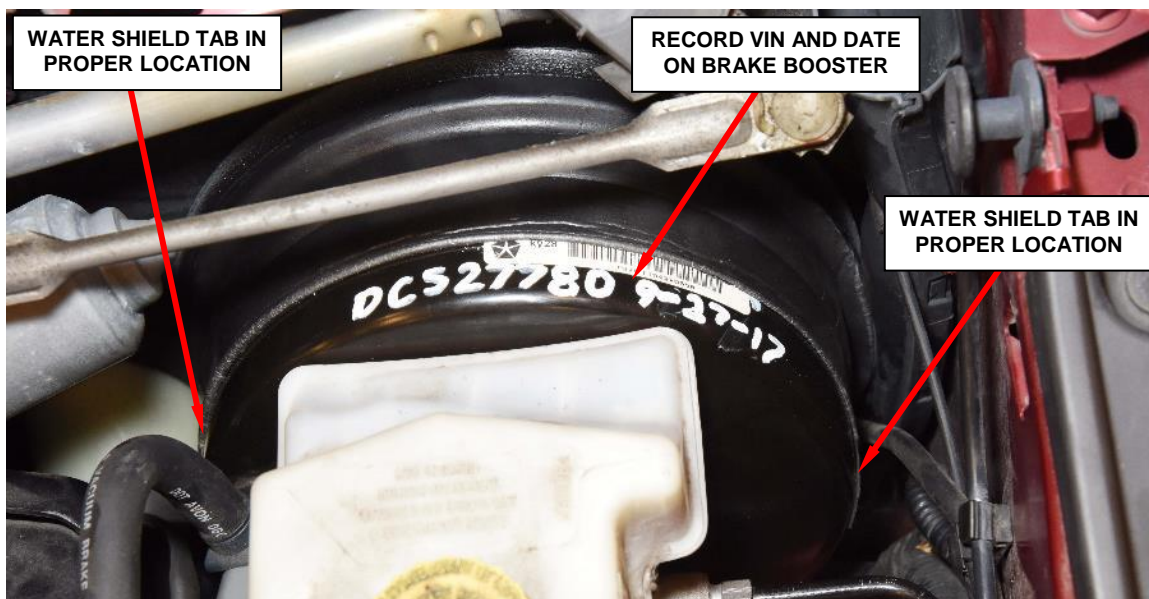

Figure 30 – Record VIN and Date on Brake Booster Shell Outer Circumference
1. Using a light color paint marker (white or yellow recommended for visibility) record the last eight characters/digits of the Vehicle Identification Number (VIN) and the date of inspection MM-DD-YY on the top side outer circumference metal surface of the brake booster metal shell (Figure 30). If a paint marker is not available, a white label or tape may be applied to the brake booster in the same location as shown in (Figure 30) to record VIN and date on.
2. Using a digital camera or cell phone, take one photograph of the brake booster in such a way as to best show the recorded VIN, date and proper positioning of the water shield on the brake booster (Figure 30).
NOTE: (Figure 30) is an example of what digital photograph should look like to be submitted with recall reimbursement claim.